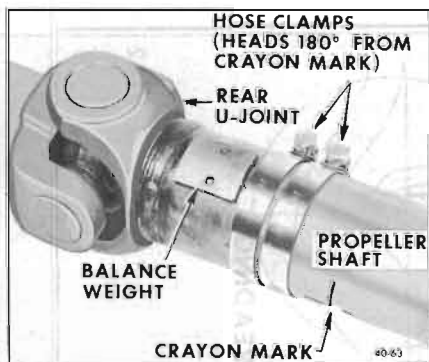

Figure 40-52—Balance Hose Clamps in Place
2. Mark and number propeller shaft at four (4) points 90 degrees apart at rear of shaft just forward of balance weight.
3. Install two (2) Wittek type hose clamps on the rear propeller shaft and slide them rearward until the clamps stop at the nearest balance weight welded to the tube. Align both clamps to any one of the four marks made on shaft in Step 2. Tighten the clamps. See Figure 40-52.